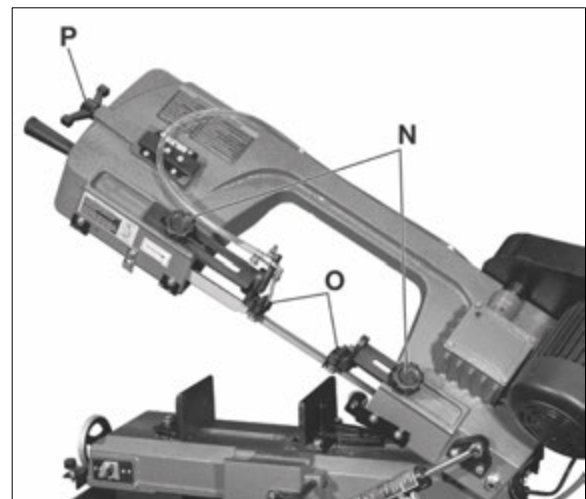
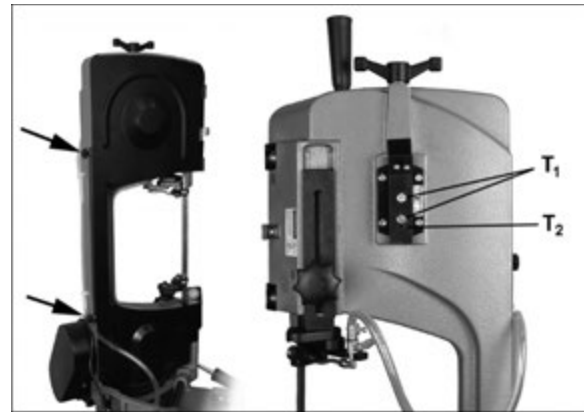

Figure 8-5: Blade Guide Adjustment
Figure 8-8: Blade Tracking Adjustment
- 2) Loosen the knob (N, Figure 8-5) and slide the blade guide assembly (O) as close as possible without interference to the material being cut. Tighten knob.
- 3) Open the rear guard by removing the two (2) knobs (see Figure 8-8).
- 4) Remove the red guard from the upper blade guide by removing two (2) screws.
- 5) Release tension on the blade by turning the tension handle (P, Figure 8-5) counterclockwise. Remove blade. (Use gloves when handling sharp blades).
- 2) Open the rear guard by removing the two (2) knobs (see Figure 8-8). Observe the position of the blade on the wheel. If blade is not adjacent to wheel flange, first adjust the blade tracking according to *sect. 8.9 Blade Tracking*.
- 3) If blade is properly adjacent to wheel flange, slide blade guide assemblies as far apart as possible, and tighten in position with knobs (N, Figure 8-5).
- 4) Push on the blade to test tension. Finger pressure should cause approximately 0.004" deflection. Turn the blade tension handle (P, Figure 8-5) until proper tension is achieved. For more precise measurement use a blade tension gauge (not provided).
- 6) If blade is not tracking properly, loosen bolts ( $T_1$ , Figure 8-8) with 12mm wrench.